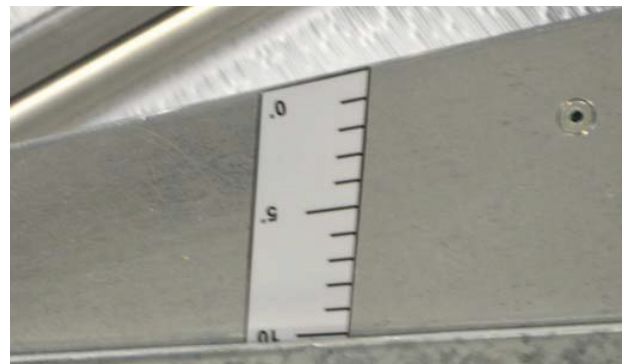

Fig. 25 — Set Purge Angle
2. Adjust purge sector to the specified angle (Fig. 25).